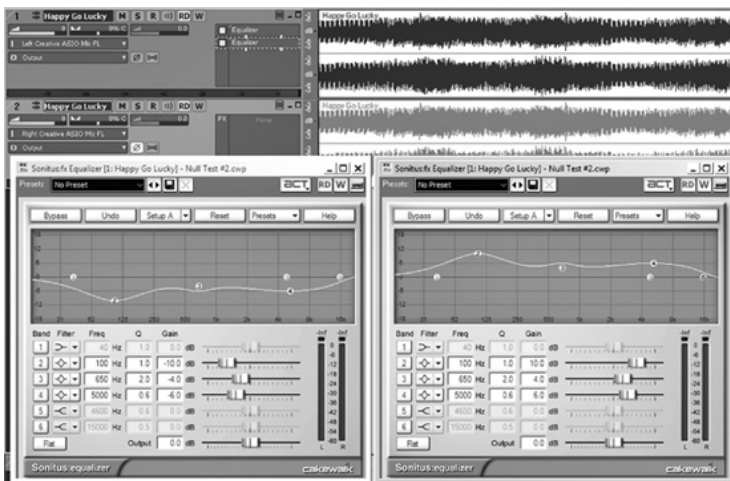

Figure 24.5: This null test proves that EQ can be reversed exactly using a second plug-in having equal but opposite settings.
Figure 24.5 shows the setup for the second null test to confirm that digital EQ can be countered with equal but opposite settings. Here again, the same music file is placed on both tracks, aligned exactly to single sample timing. In this test, Track 1 contains two instances of the same EQ plug-ins, with three bands set to opposite amounts of boost and cut, with the same bandwidth (Q). Track 2 uses no plug-ins, but its polarity is reversed to cancel Track 1.